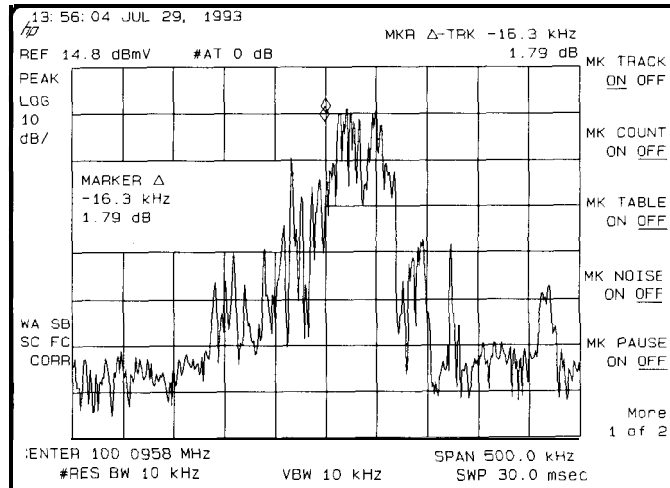

Figure 4-8. Using Marker Tracking to Track an Unstable Signal
5. The signal frequency drift can be read from the screen if both the marker track and marker delta functions are active. Press **(MKR)**, **MARKER Δ**, **(MKR FCTN)**, **MK TRACK ON OFF**; the marker readout indicates the change in frequency and amplitude as the signal drifts. (See Figure 4-8.)